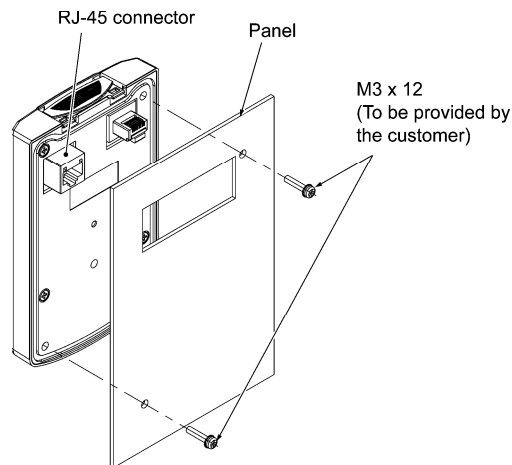

Figure 5.10 Mounting the Keypad
- (4) Using a remote operation extension cable or a LAN cable, interconnect the keypad and the inverter (insert one end of the cable into the RS-485 port with RJ-45 connector on the keypad and the other end into that on the inverter) (See Figure 5.10).